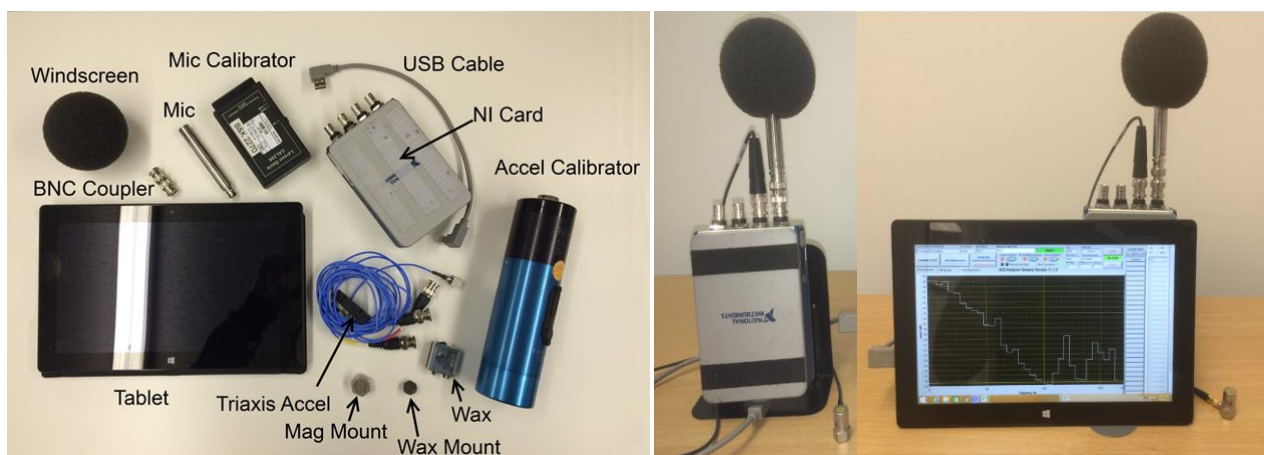

Figure 2. National Instruments/LabVIEW walk around data acquisition system
To obtain the octave band measurements for the chosen generator, measurements were taken around the same model generator, except it was rated at 16 KW and is located at the authors residence. Five measurements were taken around the generator at 1 meter and averaged to determine the SPLs. The table for all measurements taken is supplied in Appendix A. The full octave band SPL values were calculated from the one-third octave band measurements for input into the barrier calculation. Noise data was acquired using a hand-held walk around spectrum analyzer (Figure 2). Acoustic measurements were obtained using laboratory quality microphones from PCB. All instrumentation was under calibration from a certified laboratory and, in addition, an end-to-end calibration was performed to verify sensitivity value of the microphone through the complete measurement chain.
The average measured SPLs at 1 meter from the Generac 16 KW unit operating at normal load is shown in Table 1 along with the calculated sound power levels. As can be seen, the overall SPL at 1 meter is 82 dB(A) which based on spreading calculations would equate to a SPL level of 65 dB(A) at 23 feet. This corresponds well with the published value in the specification sheet shown in Appendix A for this 16 KW unit. It was previously determined using measurements taken from MassGIS's online mapping tool that the closet property line to the facility was 68 feet from the north side of the building. Table 1 shows predicted SPL for the 16 KW generator at this location with and without the noise barrier. The barrier model is shown in Figure 2.